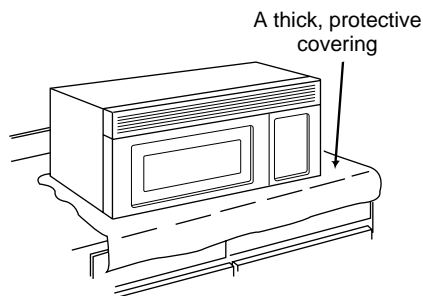

Figure 16
2. Cover the counter top or cooktop with a thick, protective covering to protect it from damage and dirt. See Figure 16.